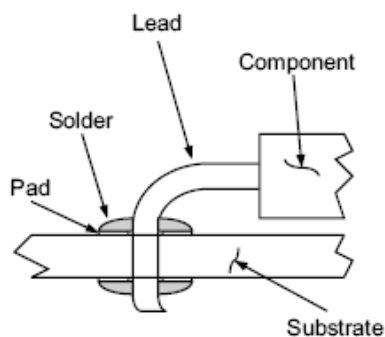

Fig. 7 A Solder Joint Exhibiting Good Wetting
1. Some circuit assemblers have migrated to low activity fluxes. Fluxes are available now which have such low activity levels that it is not necessary to remove them from the PCB. Such fluxes are commonly referred to as “no-wash” “leave-on” fluxes. However, low activity fluxes frequently lead to wettability problems. Wettability is a measure of how well the solder joins the device lead or terminal to the PC board (Figure 7). Two important factors in a low-activity flux process are the cleanliness of the device leads or terminals, and the plating thickness of the leads or terminals. If the terminals of a device are not sufficiently clean, de-wetting can occur. If the plating thickness of the device terminals is insufficient, non-wetting can occur.